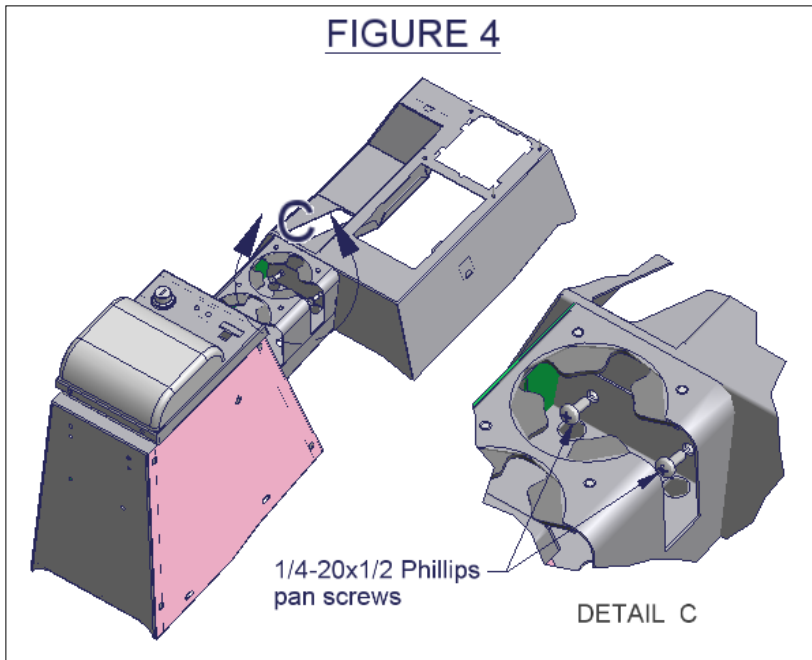

FIGURE 5
39. Attach the shift boot plate to the console using (2) 6-32 x 3/8 screws (SEE FIGURE 5). Position the shift boot plate flush against shift boot so it holds the shift boot tightly.